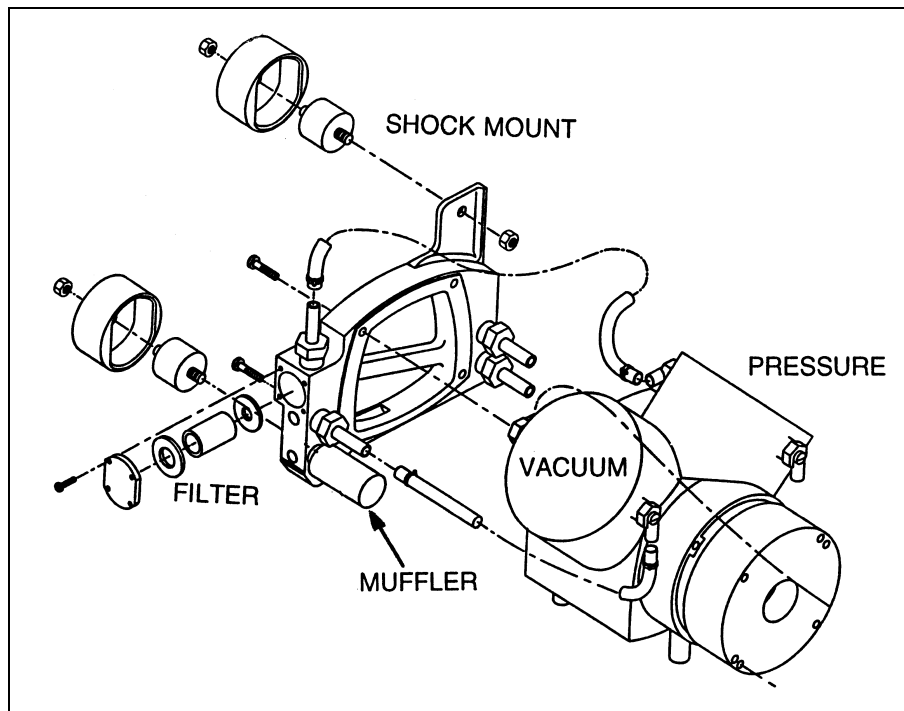

FIGURE 5-2 Pump Assembly, Exploded Isometric View
2. Refer to FIGURE 5-2. Cut off the hose clamps from the vacuum and pressure heads on the pump assembly. Remove the hoses from the heads.
2. Remove the muffler by rotating it counterclockwise (See Figure 5-2).
2. Remove the four screws that retain the filter access cover (See Figure 5-2).
3. Inspect the four shock mounts for signs of cracking or excessive wear. Replace as necessary (See Figure 5-2).